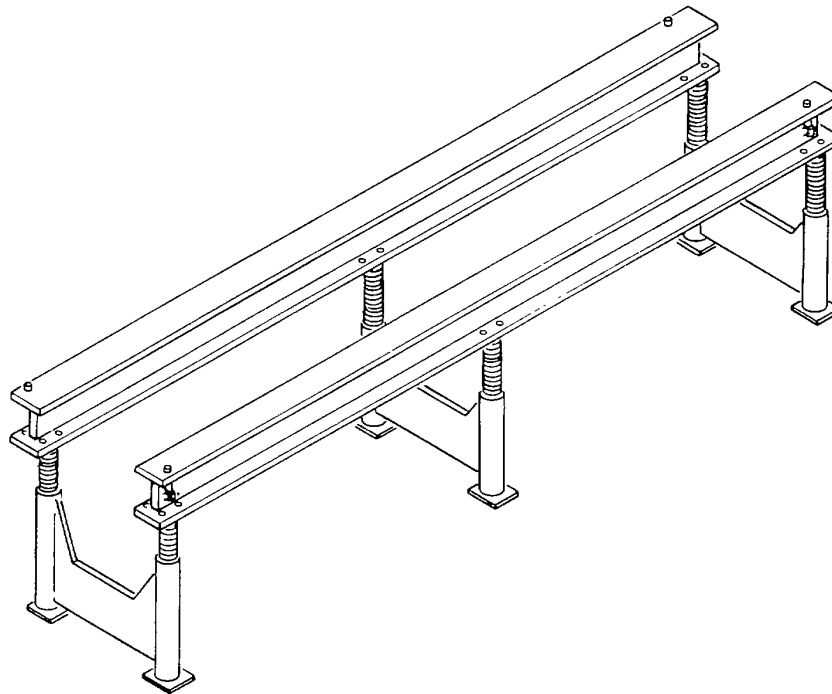

Figure 9-3. Engine Maintenance Stand
(3) *Aircraft engine maintenance stand.* The aircraft engine maintenance stand, shown in figure 9-3, provides an essentially nonmovable work station for repair of aircraft engines.